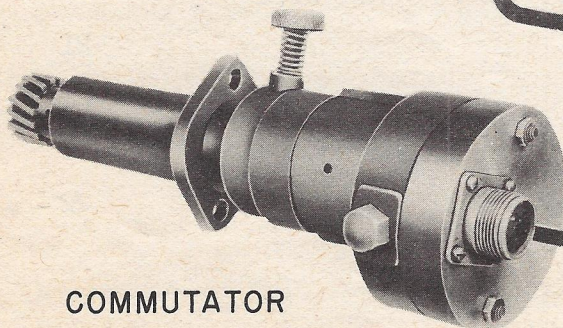

Figure 1 - The Knockometer Assembly
1. GENERAL. (See figures 1, 3 and 4.)
(3) The JUNCTION BOX, to serve as a junction point for cables from the pick-up, the commutator and the amplifier and to divert current by means of a switch. (See figure 1.)
(4) The AMPLIFIER, to amplify the voltage signals from the pick-up and at the same time to control their gain.
(5) The METER INDICATOR, to filter out non-detonation voltage by means of a neon lamp, to indicate detonation voltage by flashes of this neon lamp, and to register it on the meter.
(6) The POWER SUPPLY, to adapt the alternating current input for the amplifier.